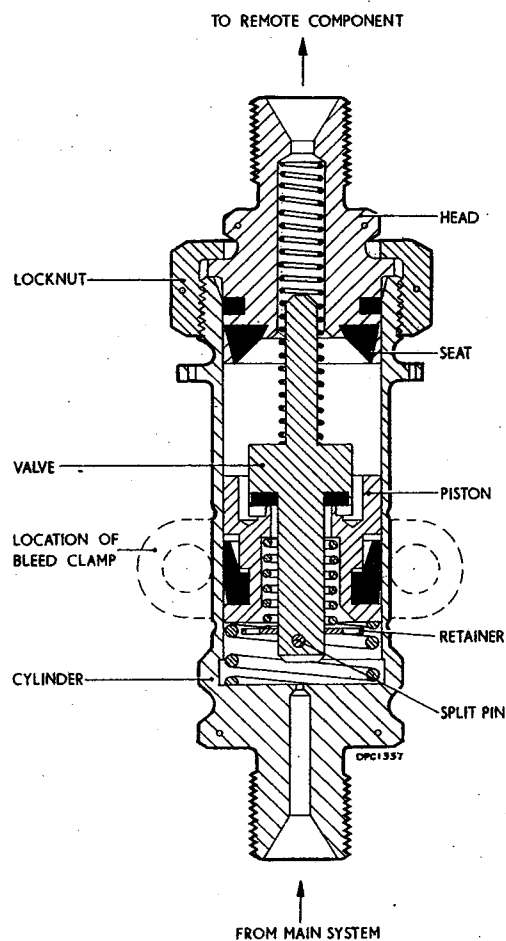

Fig.1 Sectional view of units ACM18570,
1. These pressure relay valves are similar, the differences between the valves are as laid down in the leading particulars and Figures 1 and 2. The hydraulic pressure relay valve acts as a safety device in a subsidiary pipe line to prevent loss of main system fluid through leakage.